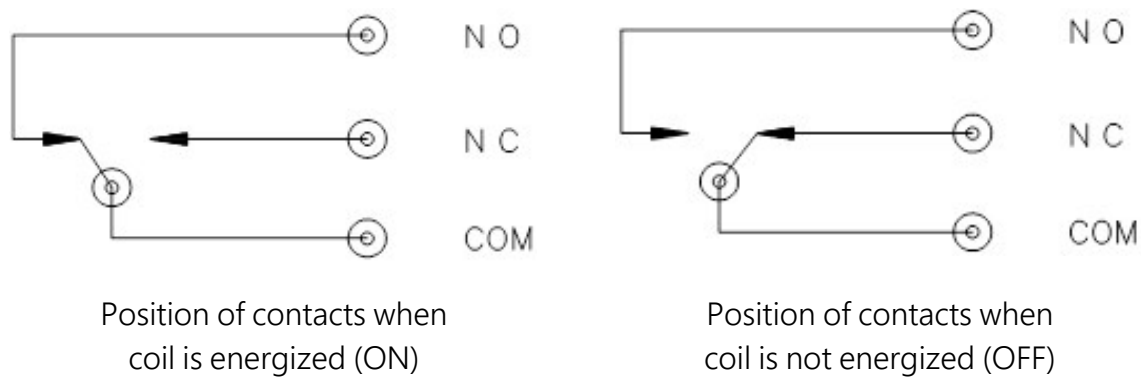

FIGURE 4-1. Switch operation
The toggle switch has three positions: **ON** and **OFF** for manual override, and **AUTO** for data logger control. In the **ON** position, the common (COM) and normally open (NO) contacts are closed (see FIGURE 4-1 (p. 6)). In the **AUTO** position, the state of the relays are controlled by the data logger control ports.
FIGURE 4-1 (p. 6) shows how the switches in each channel operate. **NO** means “normally open”, **NC** means “normally closed”. **COM** means “common” to **NO** and **NC**.